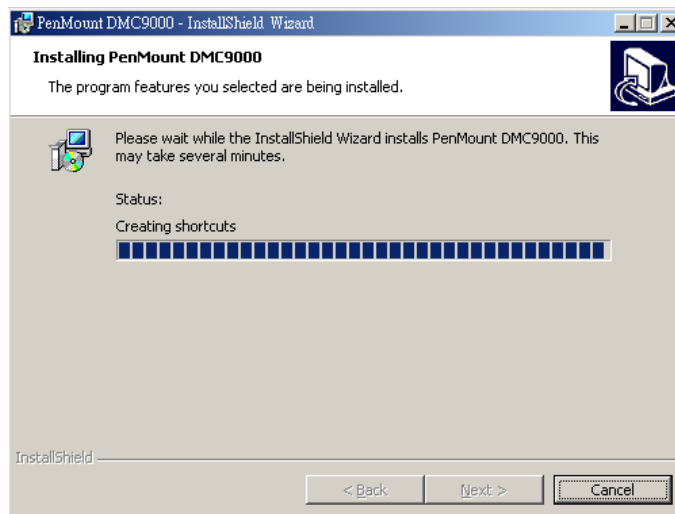

Figure 7-22: Installing PenMount DMC9000
Step 5: Click **INSTALL** to continue. The Installing PenMount DMC9000 screen appears as the program is installed (Figure 7-22).